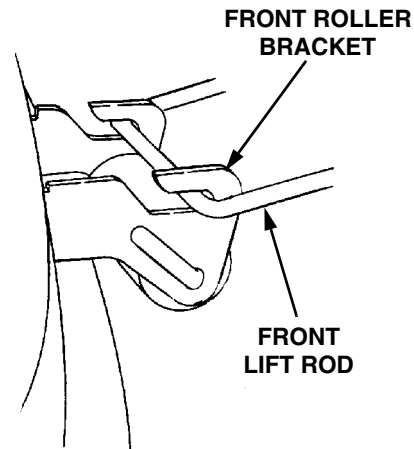

Figure 6-22
- While holding the front lift rod up, slide the mower deck forward until the rod aligns with both front roller bracket slots. Lower the lift rod into the front roller bracket slots and slide the deck rearward to engage the lift rod fully forward in the slots of the deck front roller bracket (See Figure 6-22).